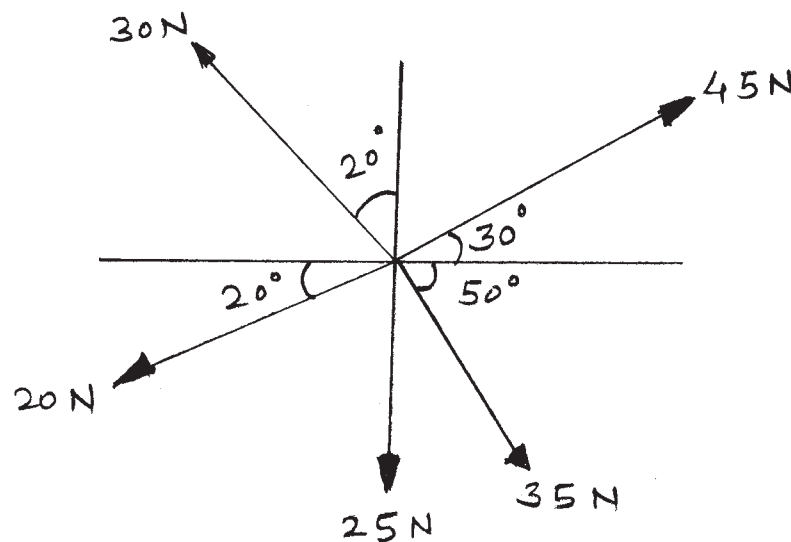

Fig. No. 1
- Calculate the magnitude and direction of resultant force of the force system shown in Fig. No. 1 by analytical method.